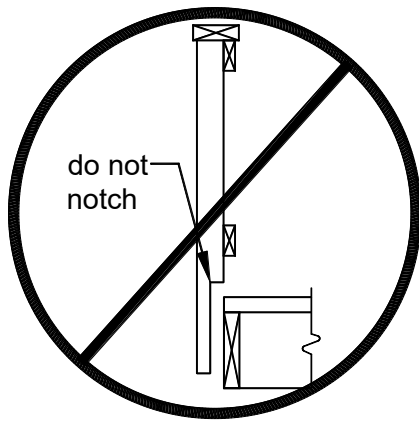

FIGURE 14: POST NOTCHES PROHIBITED
- Notching guard posts, as shown in FIGURE 14, is prohibited.